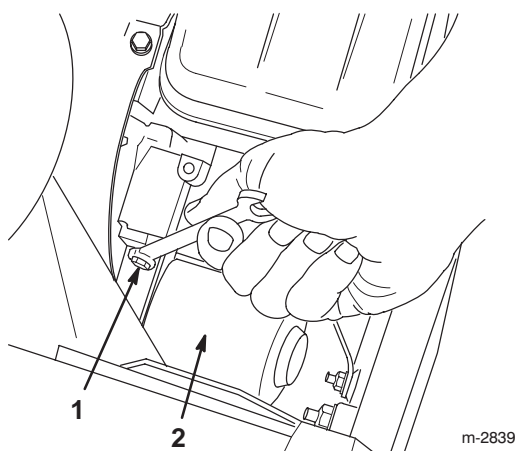

Figure 5
1. Remove the upper starter motor mounting bolt (Fig. 5).
3. Install and tighten the upper and lower starter motor mounting bolts (Figs. 5 and 6).